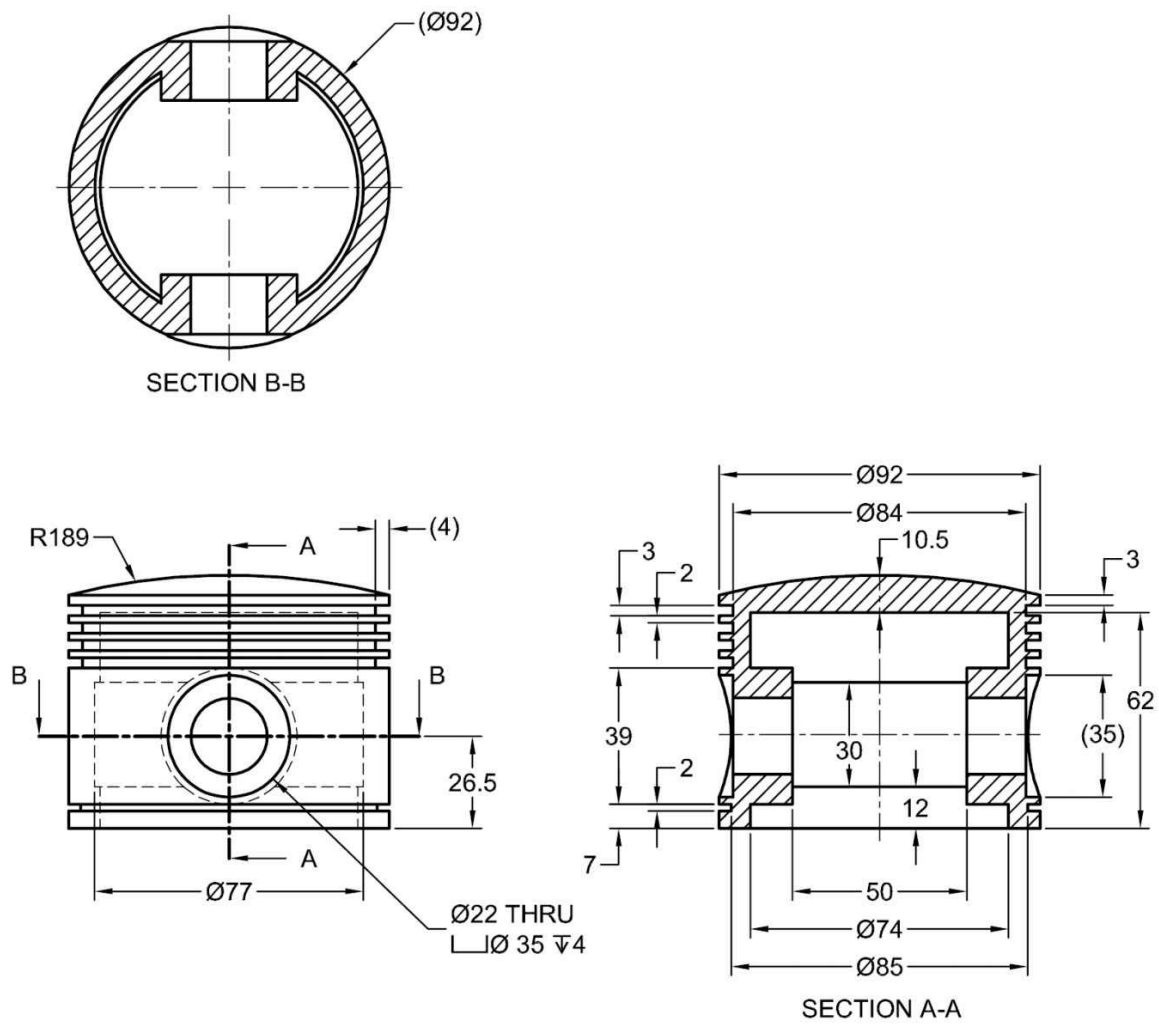

Figure 9-57 Views and dimensions of the Piston
Figures 9-57 through 9-61. Save the assembly file with the name *Radial Engine.prt* at the location *\NX\c09\Radial Engine*. **(Expected time: 4 hr)**
1. Create a folder with the name *Radial Engine* at */NX/c09*. Create all the components of the Radial Engine as individual part files and save them in this folder. The views and dimensions of the components are given in Figures 9-57 through 9-61.